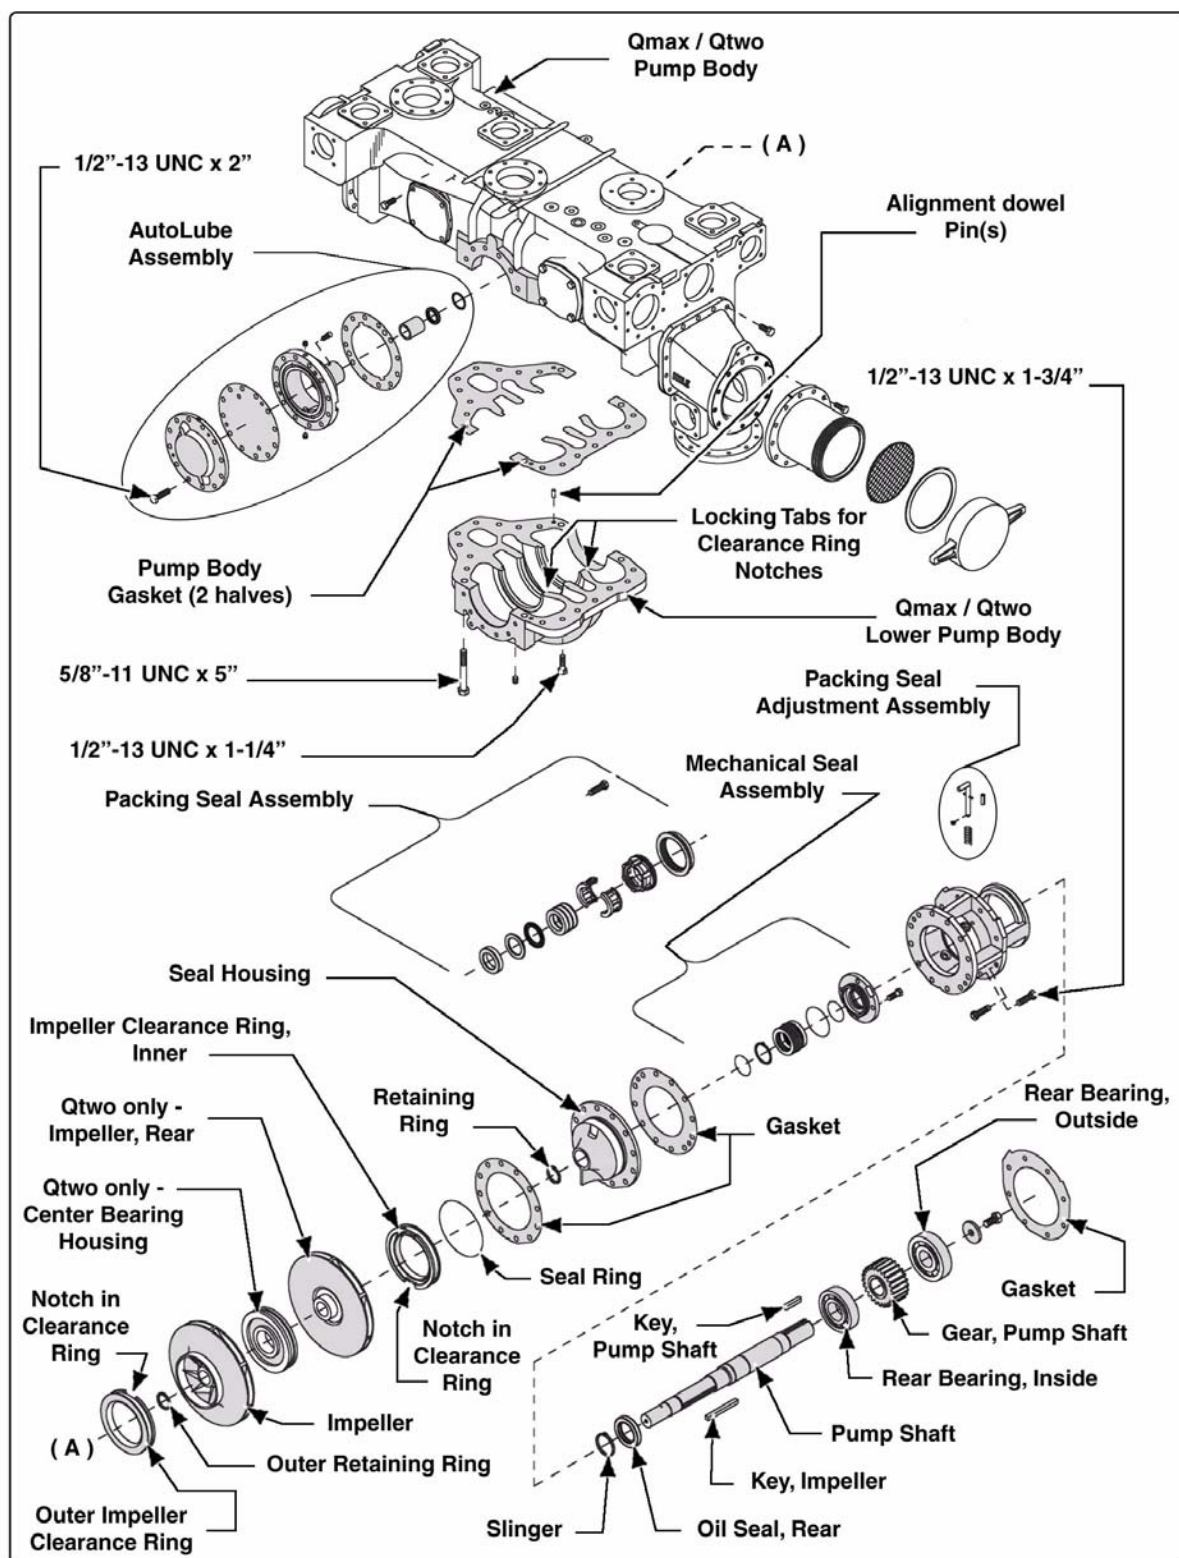

Figure 7-7: Qmax / Qtwo Assembly Overview
THE LOWER PUMP BODY WEIGHS APPROXIMATELY 100 LBS (46 KGS). (SEE FIGURE 7-7: "QMAX / QTWO ASSEMBLY OVERVIEW," ON PAGE 120.) SUPPORT THE LOWER PUMP BODY AND IMPELLER ASSEMBLY WITH THE PROPER LIFTING DEVICE. FAILURE TO DO SO COULD RESULT IN THE LOWER PUMP BODY AND IMPELLER ASSEMBLY FALLING, WHICH COULD RESULT IN SERIOUS PERSONAL INJURY, OR PROPERTY DAMAGE.
- ☐ 1/2"-13 UNC x 2" screws from the "top half" of the AutoLube bearing housing and the pump body. (See Figure 7-7: "Qmax / Qtwo Assembly Overview," on page 120.)
6. Position the lifting device to support the lower pump body, then remove the 5/8"-11 UNC x 5" screws in each of the four corners of the lower pump body. (See Figure 7-7: "Qmax / Qtwo Assembly Overview," on page 120.)
3. Remove the outer retaining ring and clearance ring. (See Figure 7-7: “Qmax / Qtwo Assembly Overview,” on page 120.)
Also see Figure 7-7: “Qmax / Qtwo Assembly Overview” on page 120.
4. Install a new gasket on the seal housing face. (See Figure 7-7: “Qmax / Qtwo Assembly Overview,” on page 120.)
6. Using proper lifting device, slowly raise the lower pump body and the impeller assembly into place. Align the lower pump body aligns with the dowel pins and the clearance ring notches with the clearance ring lock tabs in upper pump body. (See Figure 7-7: “Qmax / Qtwo Assembly Overview,” on page 120.)